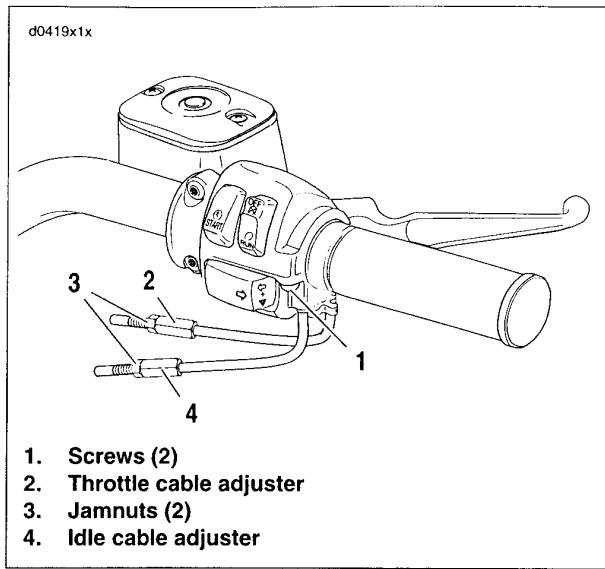

Figure 1-55. Throttle Cable Adjusters
1. See Figure 1-55. Remove two screws (1) to separate the upper handlebar housing from the lower housing.
5. When assembling the handlebar housing, tighten both screws (1) to 35-45 in-lbs (4.0-5.1 Nm).
1. See Figure 1-55. Turn the cable adjusters (2, 4) and jamb-nuts (3) as short as they will go. Both cables should have zero adjustment at the start of this procedure.